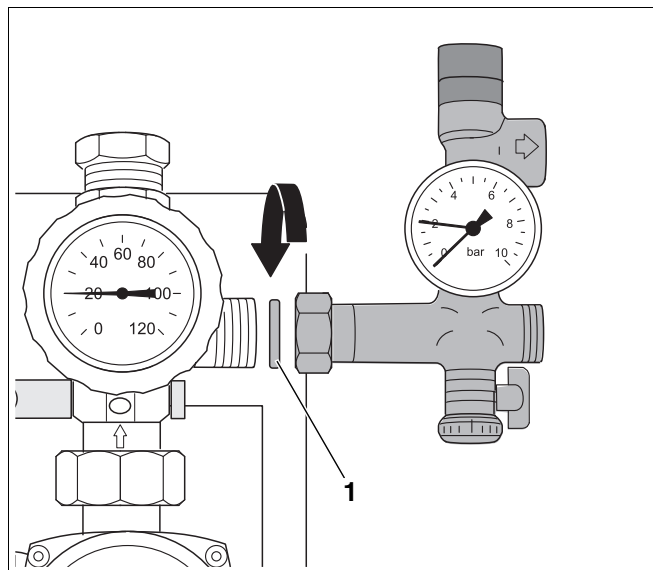

Fig. 7 Install the safety assembly
- Install the safety assembly with the gasket enclosed (21 x 30 x 2) (Fig. 7, **Item 1**) on the solar pump station return.